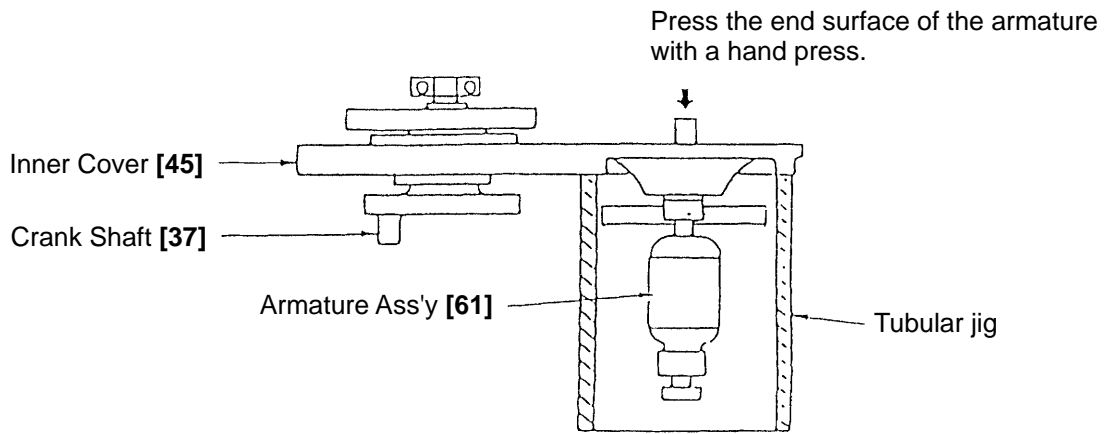

Fig. 6
- (1) Loosen the four Seal Lock Hex. Socket Hd. Bolts M4 x 12 **[70]**, remove the Cap Covers **[65]**, Cap Rubbers **[66]** and Brush Caps **[67]**, and take out the Carbon Brushes **[68]**. At this time, be very careful not to lose the disassembled parts.
- (2) Loosen the four Nylock Hex. Socket Hd. Bolts M8 x 35 **[22]**, and remove the Cylinder Case **[20]**. Next, after loosening the Seal Lock Hex. Socket Hd. Bolt M8 x 16 **[35]**, the Connecting Rod Ass'y **[38]** and Crank Washer **[39]** can be disassembled. Leave the Striker **[8]** and Piston **[11]** as they are.
- (3) Loosen the four Seal Lock Hex. Socket Hd. Bolts M6 x 25 **[101]**, and take off the Handle and Handle Cover Set **[88]**. Next, loosen the six Seal Lock Hex. Socket Hd. Bolts M6 x 45 **[47]**, and disassemble the Gear Cover **[40]** and Counter Gear **[52]**. Then, by inserting a flat-blade screwdriver or similar tool into one of the air vents of the Inner Cover **[45]** and lifting it upwards, the Inner Cover **[45]**, Armature Ass'y **[61]**, Crank Shaft **[37]**, and related parts can be removed in a single body.
- (4) As illustrated in Fig. 6, support the Inner Cover **[45]** with an appropriate tubular jig, and push down on the end surface of the armature shaft with a hand press to separate the Armature Ass'y **[61]** from the Inner Cover **[45]**.